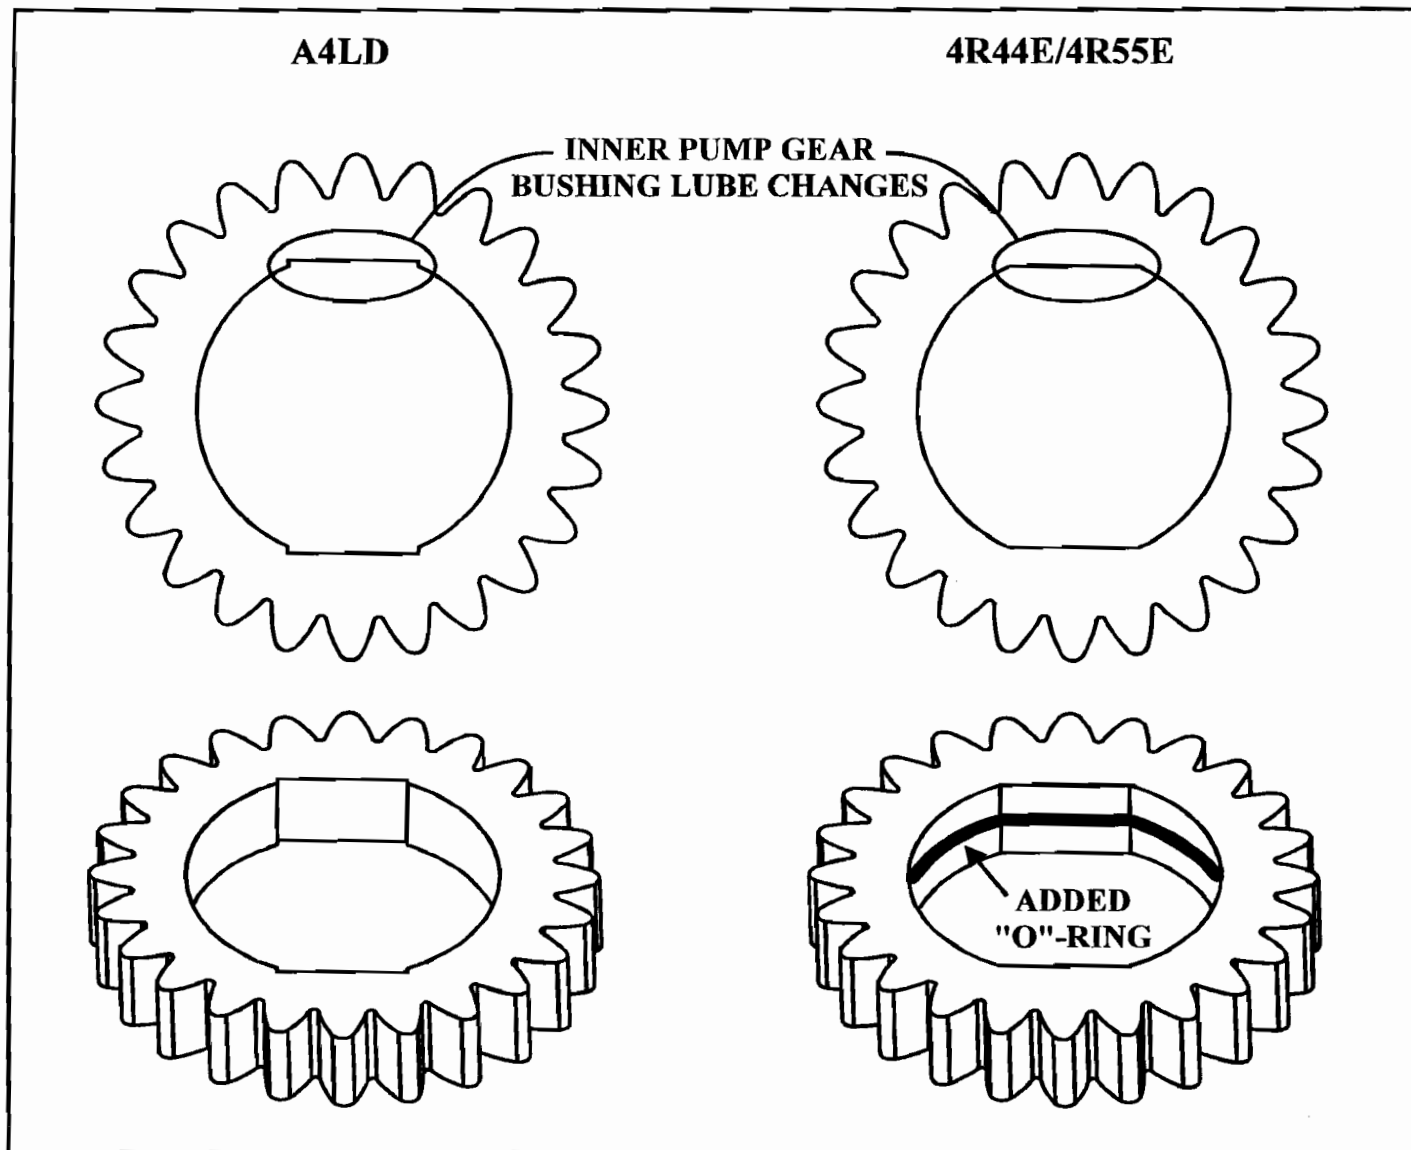

Figure 5
- (5) **INNER PUMP GEAR** - The 4R44E/4R55E inner pump gear has an easily missed change to the inside diameter and an "O" ring added in a new groove on the inside diameter to accommodate the re-routing of converter hub bushing lubrication, as shown in Figure 5.